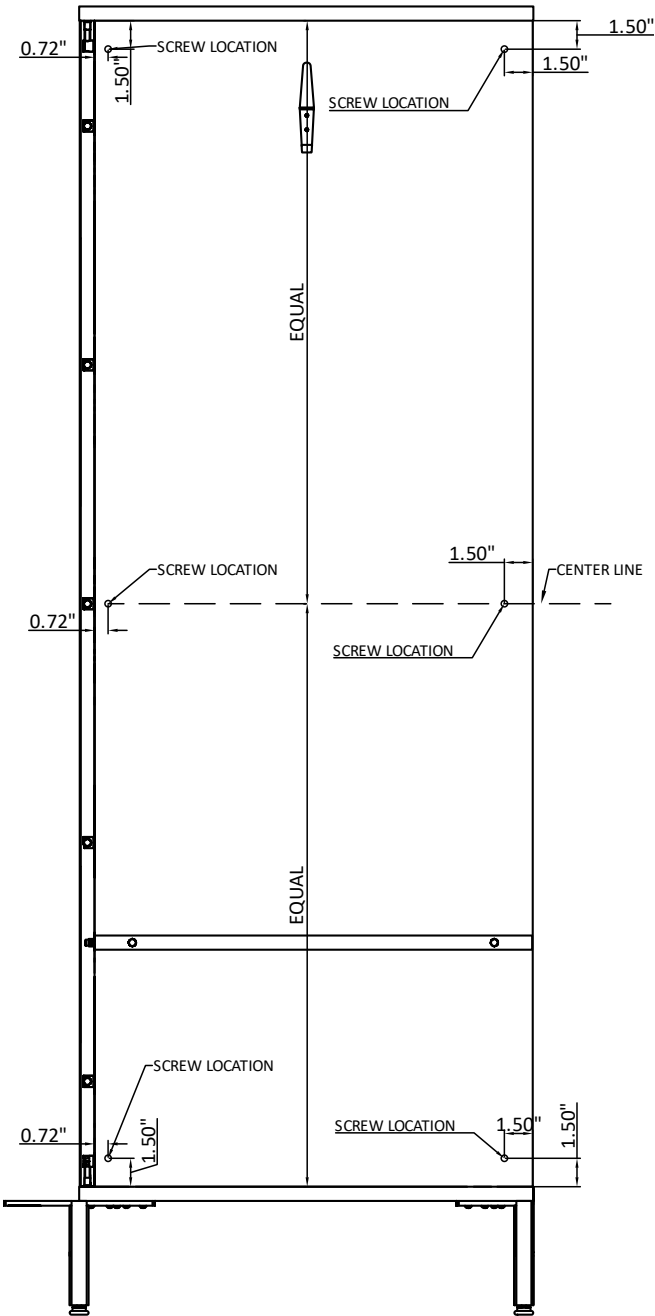

Figure 1
1. Mark the location of the screws at the inner side of locker, (Figure 1).